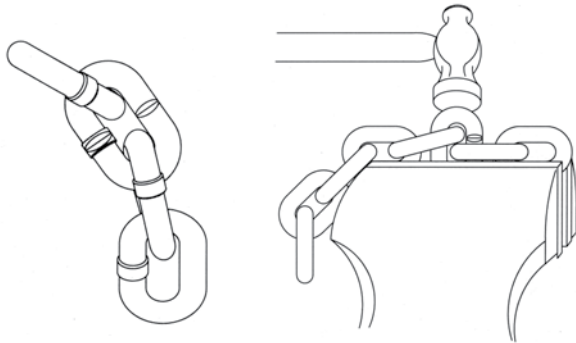

Figure 14. Cutting Chain by Nicking
1. Use a grinder and nick the link on both sides (Figure 14), then secure the link in a vise and break off with a hammer.